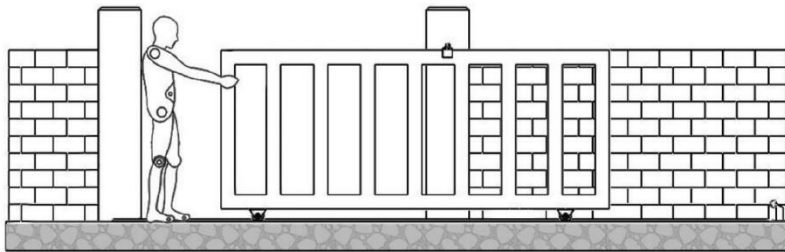

Fig 10
- Be sure that the opener is installed in a level and paralleled position and is properly secured and the gate can be moved smoothly push or pull by hand before installing motor(Fig 10)